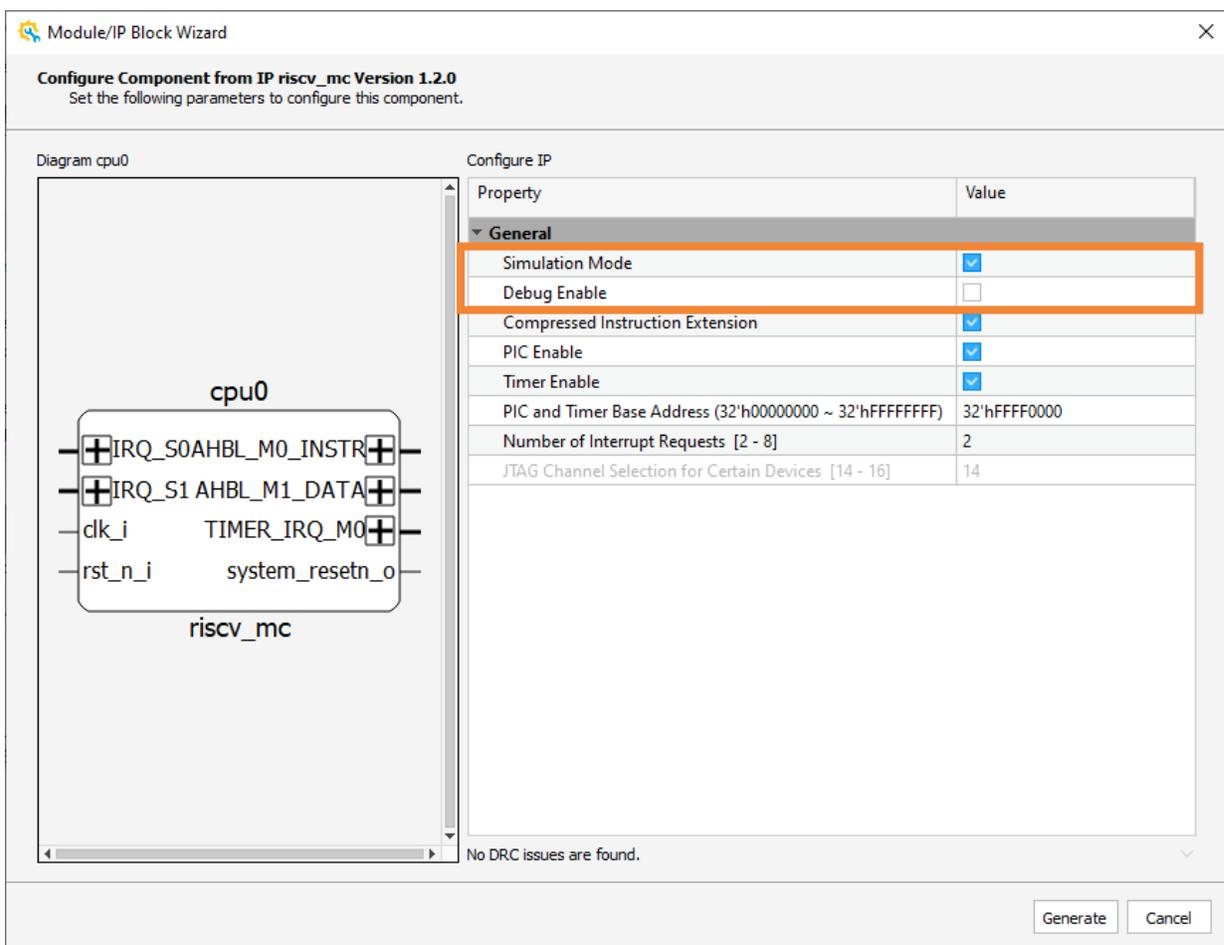

Figure 3.31. Configure Module RISC-V MC
- Enable the checkbox for **Simulation Mode**, and disable the checkbox for **Debug Enable** for RISC-V MC IP module in the **General** area (Figure 3.31).